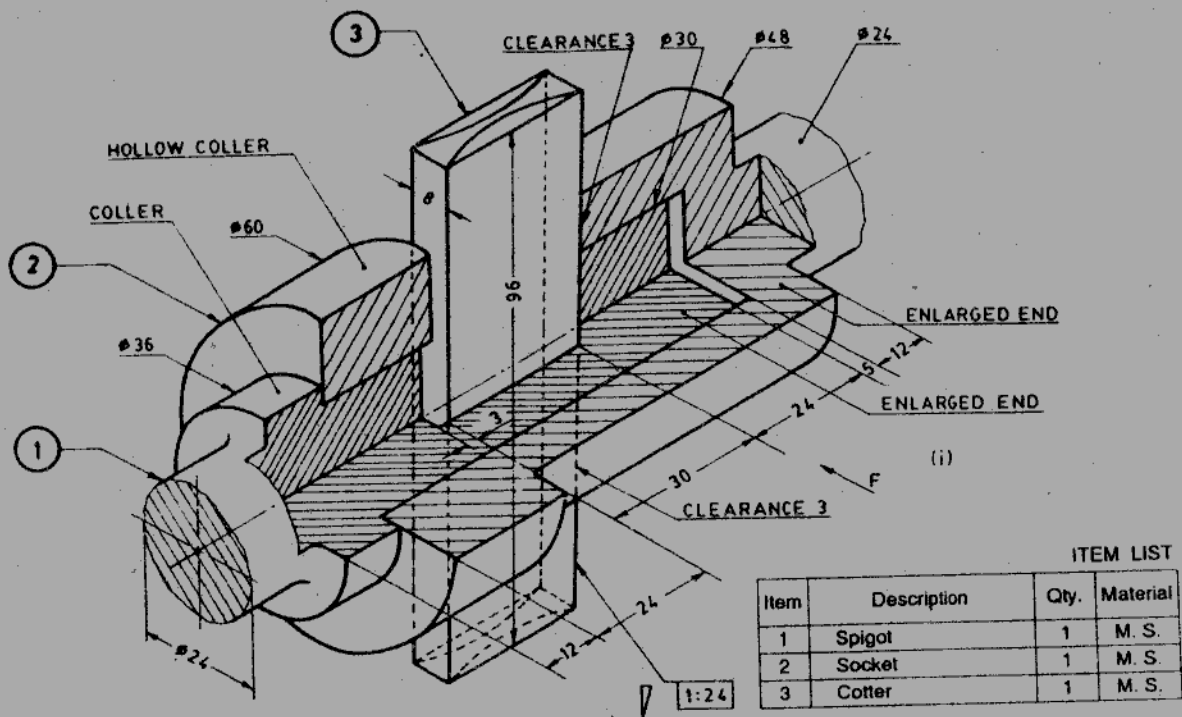

Figure 1
- III An isometric view of a socket and spigot joint is shown in figure 1. Draw the top half sectional elevation and end view from left. 30